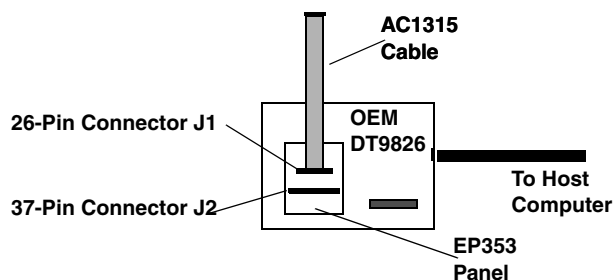

Figure 34: Connecting the AC1315 Cable to the EP353 Panel
1. Plug one end of an AC1315 cable into connector J1 on the EP353 panel, as shown in Figure 34.